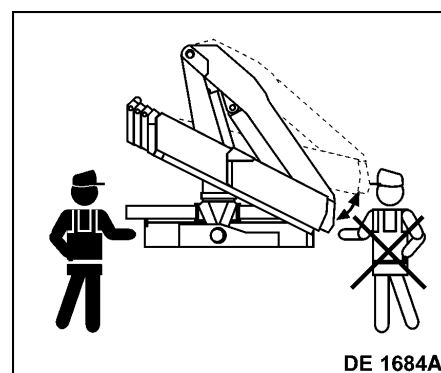

fig. 30
- Lift the inner boom over the horizontal line, by operating lever **G** (fig. 30).
- Fold the inner boom to its stroke end; the rest locating pin locates into its seat (fig. 30).